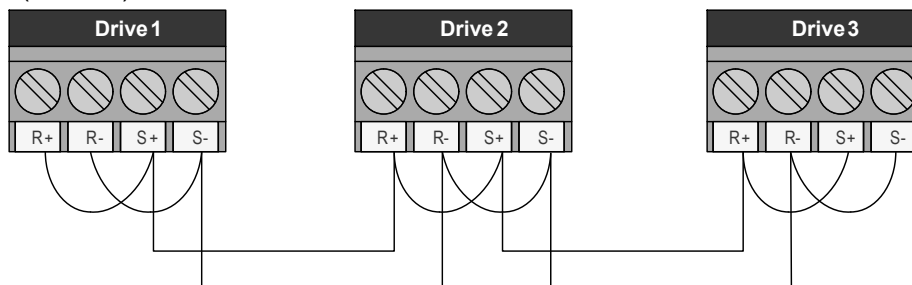

Figure 4.20 Daisy Chain Three Drives
2. Use shielded communication cable for steps 3 and 4 to connect the drives in a daisy chain manner according to Figure 4.20.